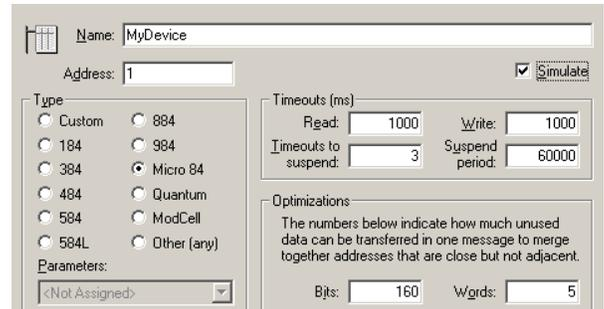

Figure 3 - Device Properties
8. Give the device a name and configure the device. You can configure your device similar to Figure 3.